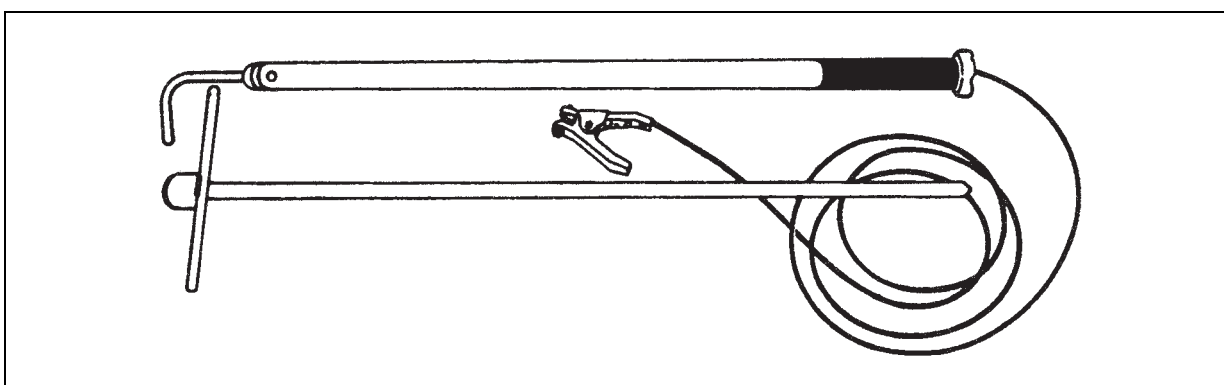

Figure 3-2. Manufactured Static Discharge Wand
- **Static Discharge Wand.** To avoid the possibility of a static electric shock, ground crewmen use discharge wands (field expedient and manufactured) to ground the cargo hook. Since these wands connect the helicopter to the ground, the static electric charge is dissipated and the hookup man will not receive a shock when he connects the apex fitting to the cargo hook. Figure 3-2 shows a manufactured static discharge wand. This wand may be ordered through supply procedures. Appendix D provides instructions, materials list, and a diagram needed to fabricate a field expedient static discharge wand.